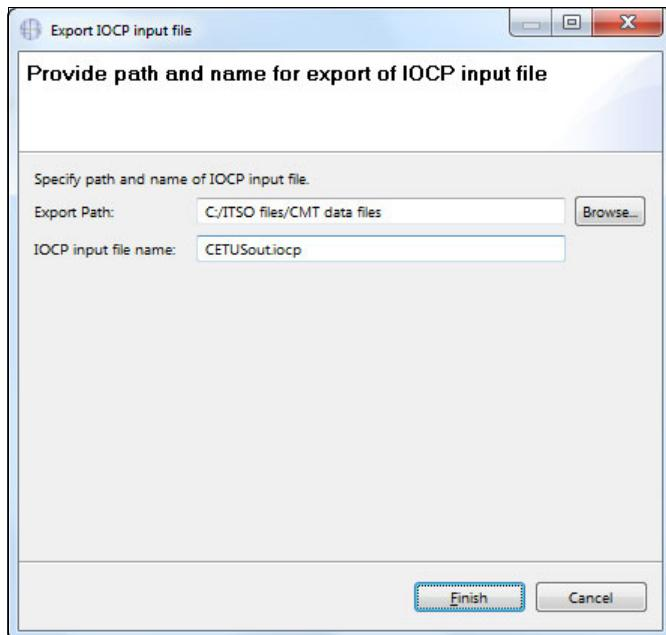

Figure 4-49 Export IOCP File
2. Enter the Export Path and IOCP Name for the IOCP output file and click **Finish** (Figure 4-49).